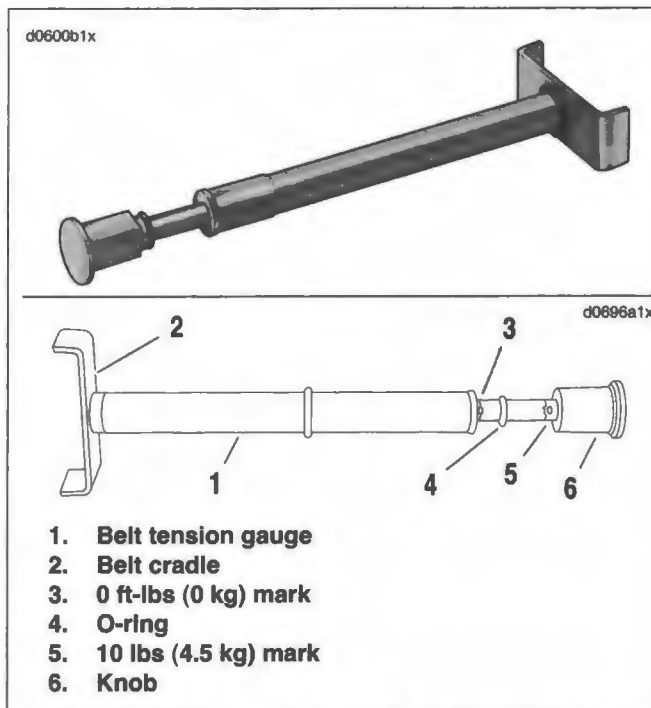
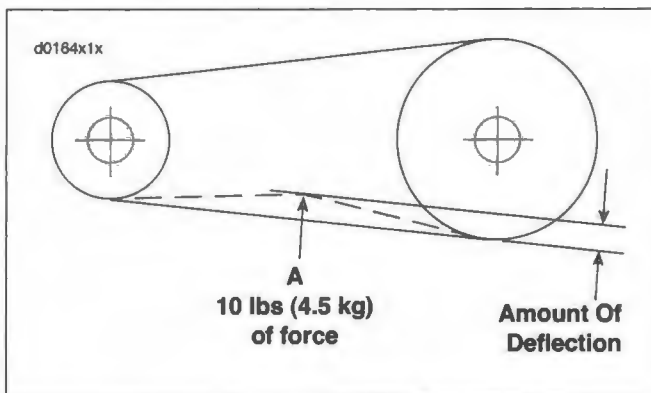

Figure 1-32. Belt Tension Gauge (Part No. HD-35381-A)
Figure 1-33. Checking Belt Deflection
1. See Figure 1-32. Obtain BELT TENSION GAUGE (HD-35381-A).
- a. Slide O-ring (4) toward 0 lbs (0 kg) mark (3).
- b. Fit belt cradle (2) against **bottom** of drive belt halfway between drive pulleys (point A in Figure 1-33.)
- c. Press upward on knob (6) until O-ring slides down to 10 lbs (4.5 kg) mark (5).
3. See Figure 1-33. Check Drive belt deflection. Apply 10 lbs (4.5 kg) of force upward at point A.